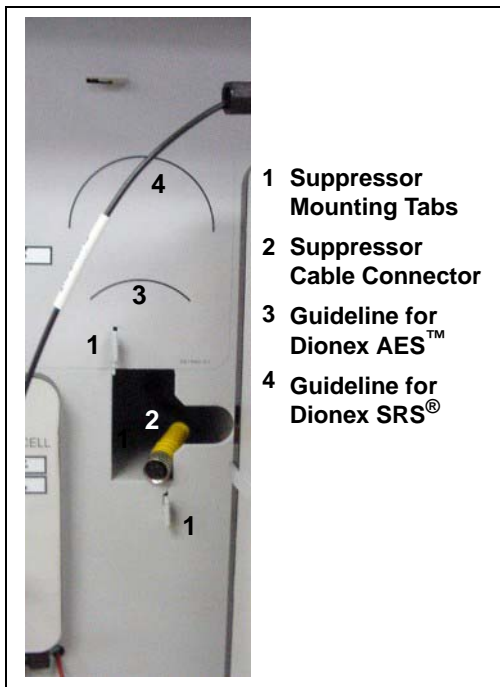

Figure 28. Suppressor Mounting Tabs and Guidelines
2. Locate the suppressor mounting tabs on the component panel (see Figure 28). Reach into the opening between the tabs and pull the yellow connector and attached cable slightly out of the opening.
5. Align the top of the suppressor with the guideline printed on the component panel (see Figure 28) and align the slots on the rear of the suppressor with the tabs on the panel.